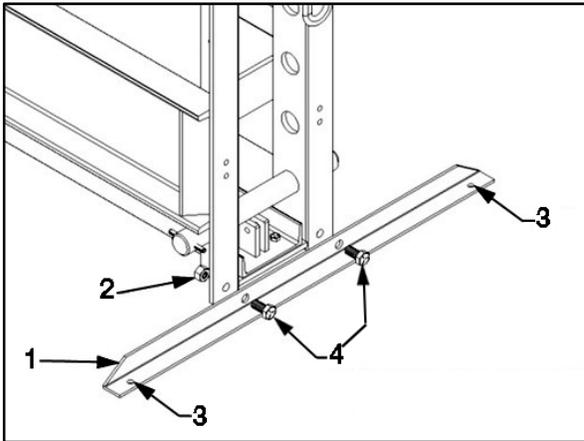

Fig. 2: Foot installation
2. Attach one of the angle feet to each side and fasten them with the supplied $\frac{3}{4}$ " bolts and nuts (Fig. 2 **Error! Reference source not found.**).